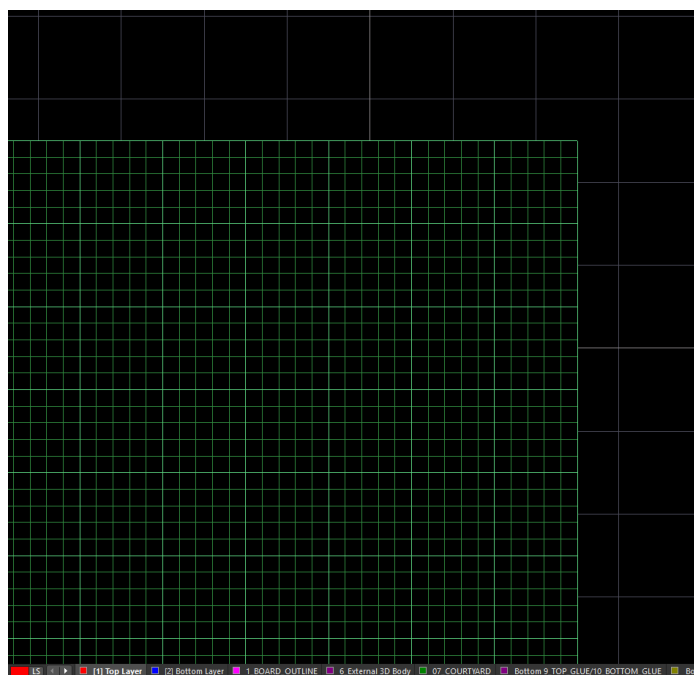

Figure 7. New Cartesian grid shows in Quadrants 1, 2, 3 and 4 in the PCB
24. Click **OK** to return to the PCB editor and note the presence of the new grid. Zoom accordingly to see the fine grid detail as shown in Figure 7 below.